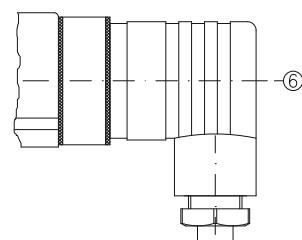

Fig. 12
- ↳ Plug the cable socket ② on the connector ① and tighten the central screw ⑥ (→ Fig. 12).